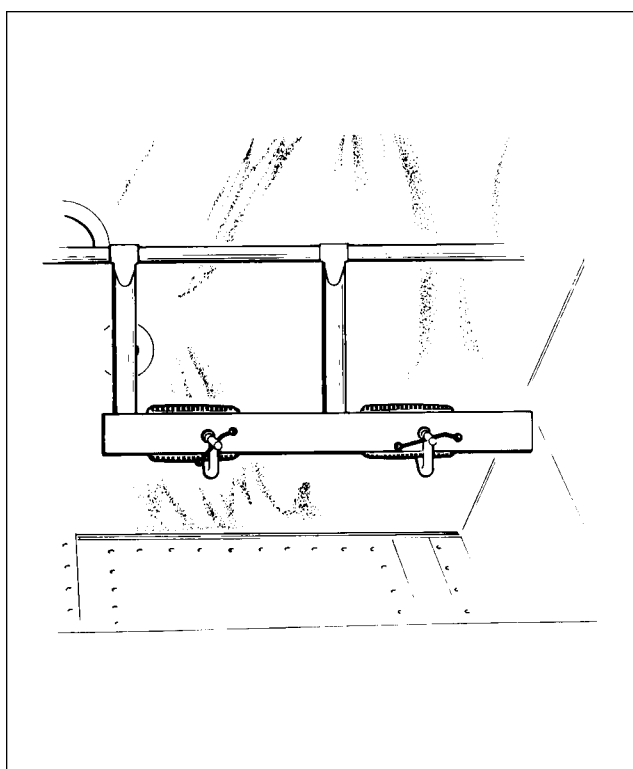

Figure 32-6. Clamping Rudder Pedals in Neutral Position
7. Clamp the rudder pedals to align in a lateral position. (Refer to Figure 32-6.)